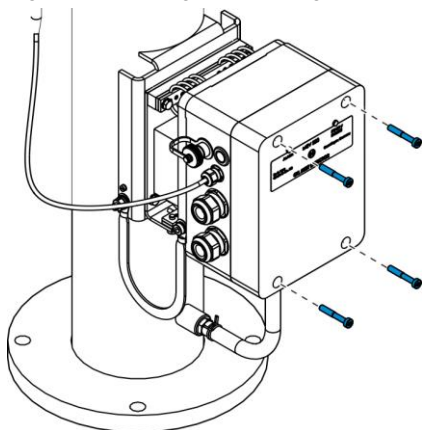

Fig. 60: Inserting screws
11. Tighten the screws of the housing cover (Fig. 60).